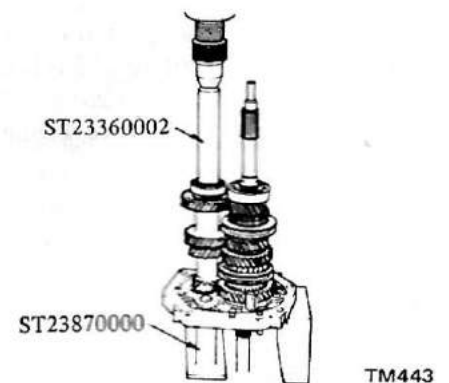

Fig. TM-35 Installing countershaft front bearing
5. Press countershaft front bearing onto countershaft with Drift C ST22360002. See Figure TM-35.